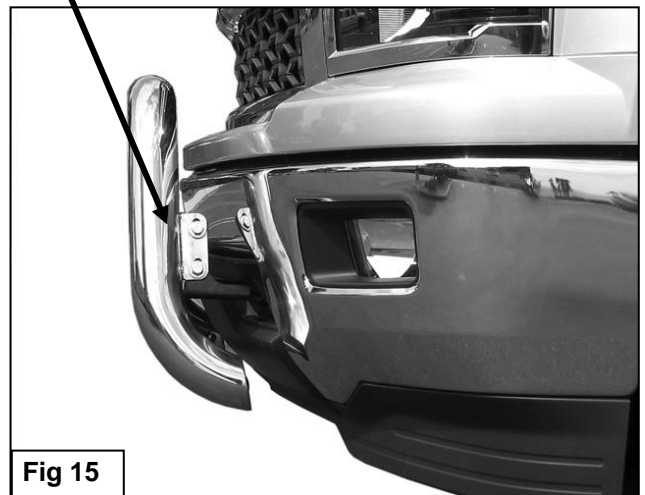

Fig 15
7. With assistance, hold the Bull Bar up in position on the outside of the Mounting Brackets. Bolt the Bull Bar to the Brackets with (4) 10mm x 30mm Hex Bolts, (8) 10mm Flat Washers and (4) 10mm Nylon Lock Nuts, **(Figure 15)**. Do not tighten hardware at this time.